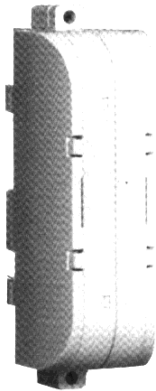

Figure 5: Phase current sensor module (CCA 650)
- phase current sensor module CCA 650 (figure 5)